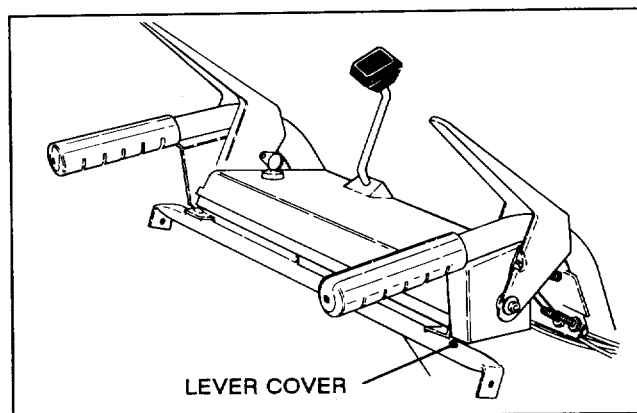

Figure 3
4. Reinstall new lever cover to right handle with (2) screws previously removed (Fig.3).